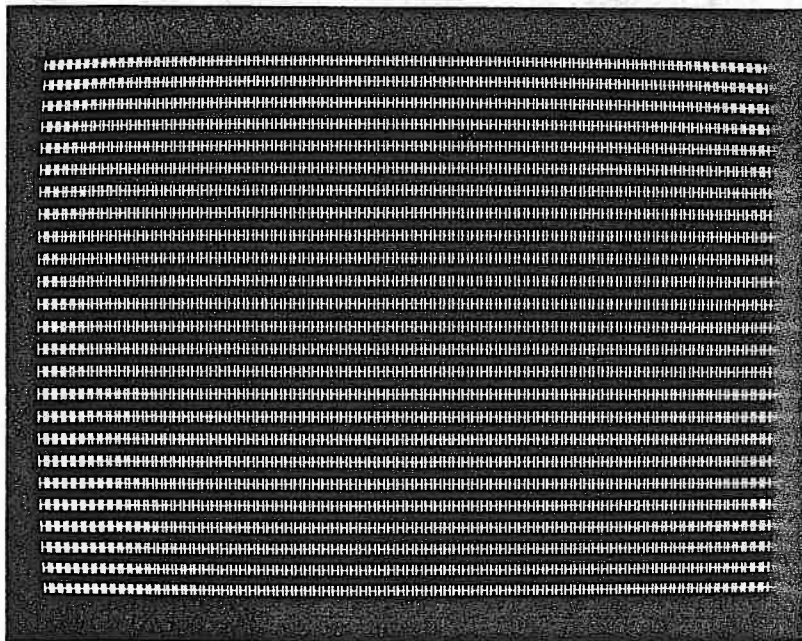

Figure 5-20. Second Monitor Test Pattern
- b. The second test pattern produced is shown in Figure 5-20. When comparing the patterns, pay particular attention to the linearity of each **H** row to verify the alignment of the raster.